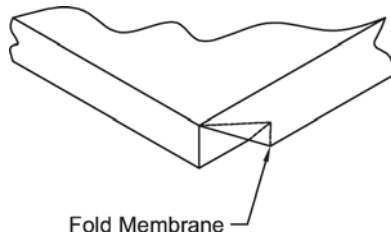

Figure 6
5. Fold all four corners of the membrane roofing material over the walk-in corners as shown in Figure 6.